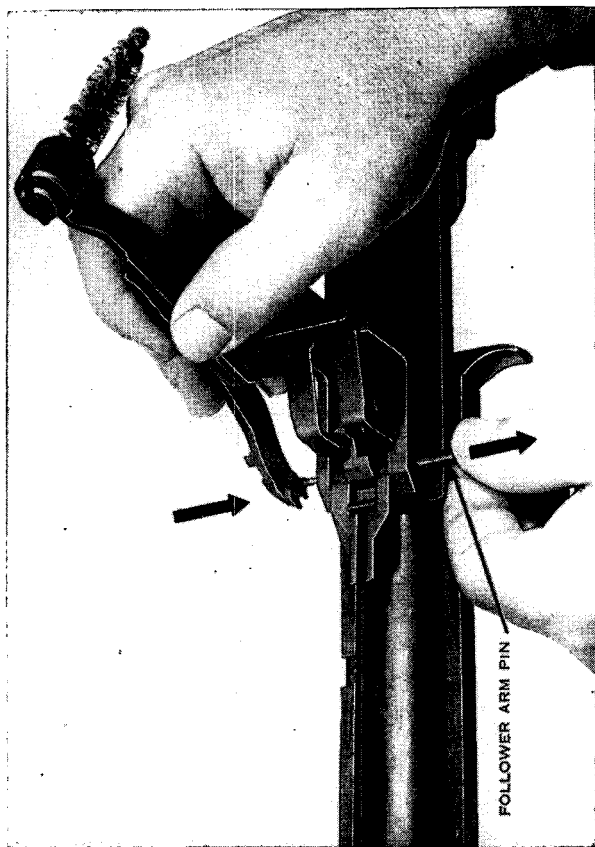

Figure 9. Removing the follower arm pin.
b. Using the drift of your combination tool, or the point of a dummy cartridge, push out the follower arm pin from the far side of the receiver toward your body (fig. 9).